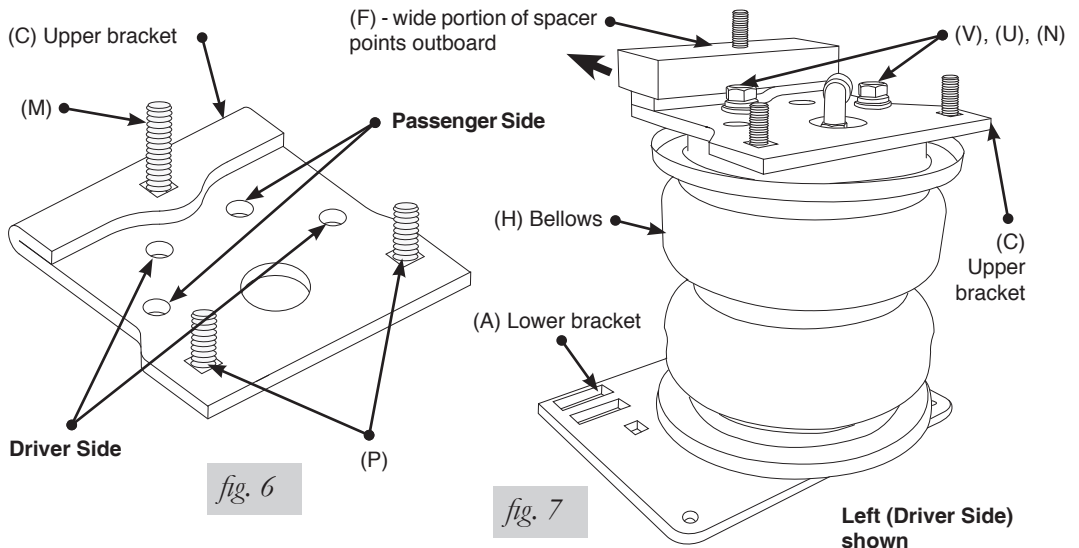

*fig. 5*
If you have no fifth wheel hitch or a hitch that does not have a plate running alongside the full length of the frame (these will have an “L” bracket forward and behind the axle leaving the middle frame open) use the 1/2”-13 x 2.00” Hex Cap Screw (HH) with a flat washer (R) through the slot in the side of the frame, then through another flat washer (R) and finally through the upper brace. Cap with a flat washer (R) and a 1/2”-13 nyloc nut (X) (Fig. 5). Leave loose at this time.
*The radiused (rounded) edge of the roll plate (G) will be towards the bellows so that the bellows is seated inside both roll plates.*
2. Install the swivel elbow fitting (Z) into the top of the bellows finger tight. Tighten the swivel fitting one and a half turns.
3. The lower bracket (A) has two sets of bellows mounting holes. Using the corresponding holes in the lower bracket designated (Fig. 5), attach the bellows to the brackets using the 3/8" flat washers (W), lock washers (U), and 3/8"-24 x 7/8" hex head cap screws (N). Torque both mounting screws to 20 lb.-ft.